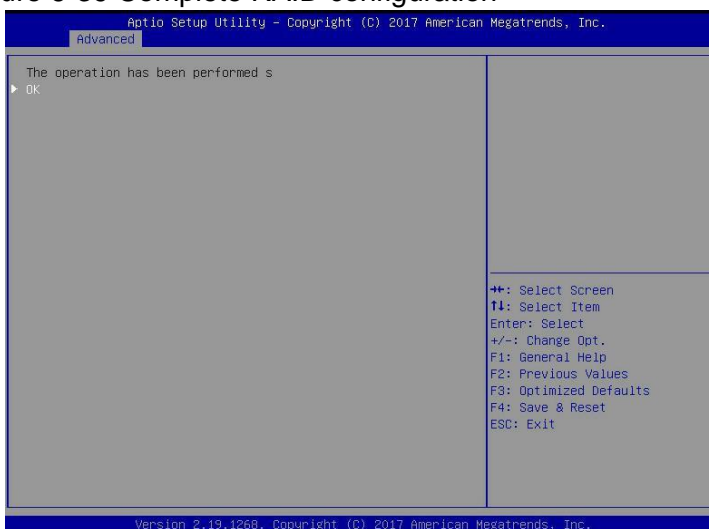

Figure 6-39
i) Enter the interface shown in Figure 6-39, complete the RAID configuration operation, select OK to return to the RAID card configuration interface.
✧ Figure 6-39 Complete RAID configuration